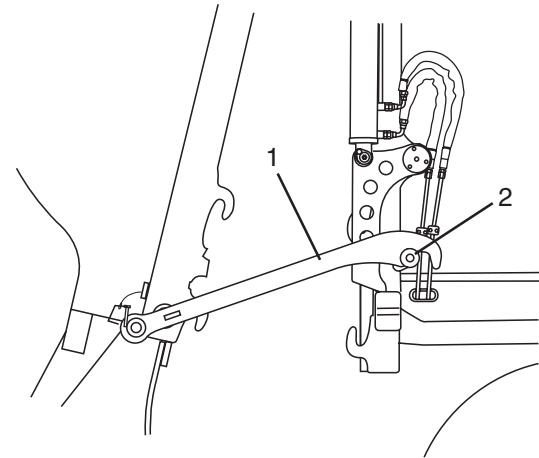

Figure 53
8. Turn ignition switch to the ON position. Do not start engine. Lower the tailgate until the props (Figure 53, Item 1) are fully seated against the pin (Figure 53, Item 2) on the body.